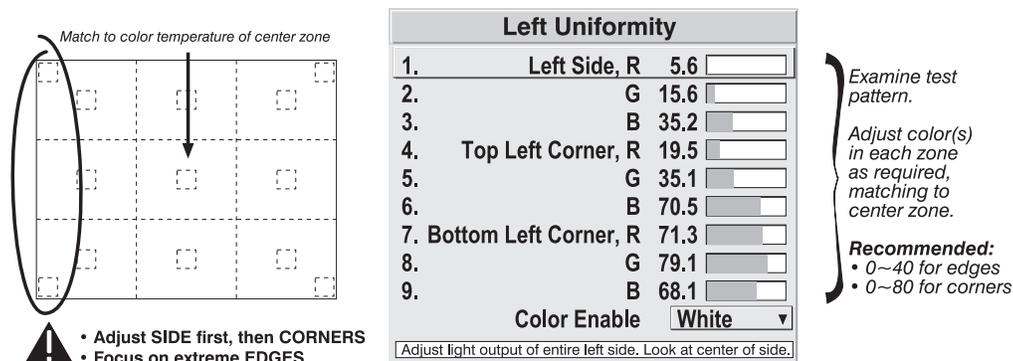

Figure 3.33. Match Zones to Center Color Temperature
- 2b) Return to the *Brightness Uniformity* menu. Beginning with the screen that exhibits the most obvious color shift(s), for each edge that exhibits a noticeably different color temperature from the center, select the corresponding *Uniformity* adjustment menu—*Left, Right, Top* or *Bottom*. For example, if any part of the left side is too blue, too red or too green, adjust the colors in the *Left Uniformity* menu (i.e., change their light output) until all portions of the left side closely match the center color temperature. Adjust an edge first (focusing on its center), then adjust its corners. See Figure 3.33.